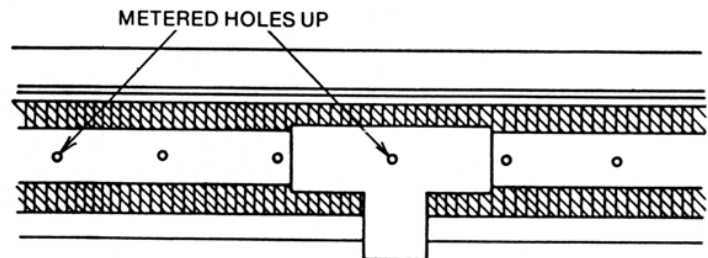

Fig. 13
1. Place a 10' (3.05 m) section of pipe into the pipe supports near the midpoint of the system with the metered holes pointing directly up and connect the tee to the pipe (see Fig. 13). Make sure the small hole in the tee is in the upward side. MAKE SURE ALL METERED HOLES ARE AT THE TOP SO THAT THE WATER WILL SPRAY DIRECTLY UPWARD.